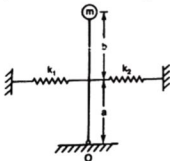

Fig. 1 (Q. 1b)
- b)** Determine the expression for natural frequency of the system shown in Fig. 1 [4]